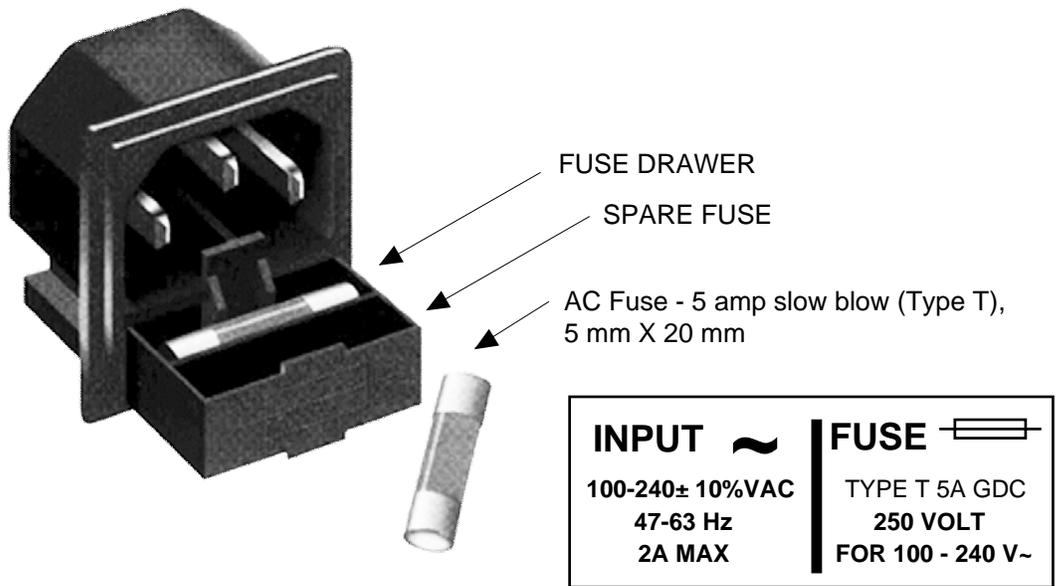

Figure 2.3 Fuse Location and Spare Fuse
- 8.) **AC Fuse** - The fuse is a 5 mm X 20 mm, 2 amp slow blow (Type T) and is inserted in the far slot in the drawer below the AC input as shown in Figure 2.3. There is a spare fuse in the near slot.